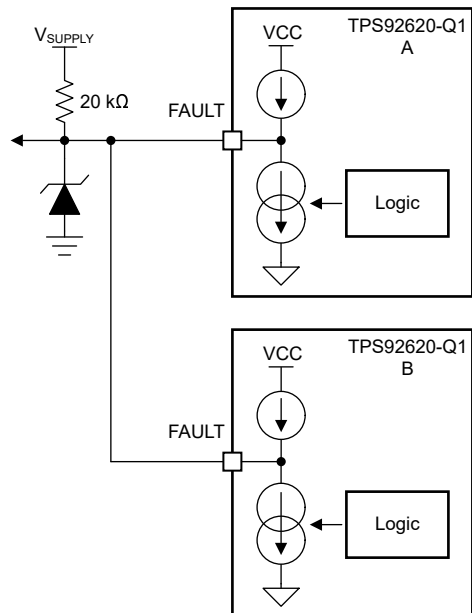
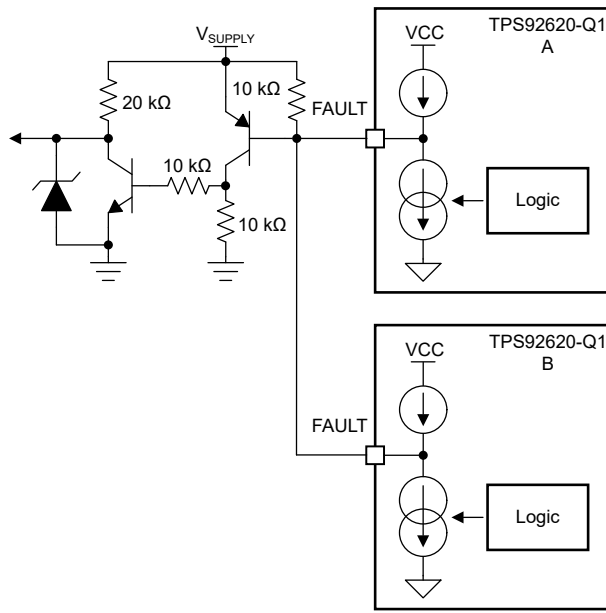

Figure 7-6. FAULT Bus for One-Fails-All-Fail Application
Figure 7-7. FAULT Bus for One-Fails-Others-On Application
Based on this feature, the TPS92620-Q1 device is able to construct a FAULT bus by tying $\overline{\text{FAULT}}$ pins from multiple TPS92620-Q1 devices to achieve one-fails-all-fail function as Figure 7-6 showing. The lower side TPS92620-Q1 (B) detects any kind of LED fault and pulls low the $\overline{\text{FAULT}}$ pin. The low voltage on $\overline{\text{FAULT}}$ pin is detected by upper side TPS92620-Q1 (A) because the $\overline{\text{FAULT}}$ pins are connected of two devices. The upper side TPS92620-Q1 (A) turns off all output current for each channel as a result. If the $\overline{\text{FAULT}}$ pins of each TPS92620-Q1 are all connected to drive the base of an external PNP transistor as illustrated in Figure 7-7, the one-fails-all-fail function is disabled and only the faulty channel device is turned off.